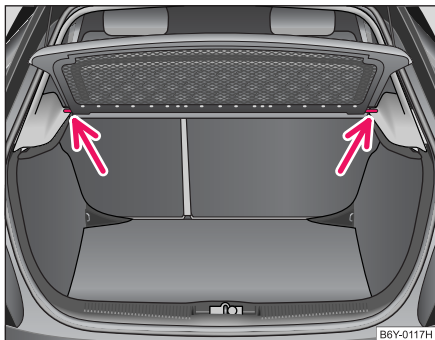

Fig. 55 Removing the luggage compartment cover
- Pull the cover to the rear out of the front holders ⇒ **fig. 55**.